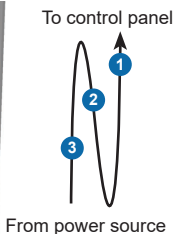

fig. 8.61
- 11- Hook the free end of the cable ("3", fig. 8.61, p. 100) to an appropriate power source. **This installation must be performed by a certified electrician.**
- 16- Raise the motorized unit and install all the required, subsequent cable guides at every tie level, making sure that segments 1 and 2 of the cable (fig. 8.61) are properly inserted in each cable guide.
- 19- Unhook the cable from the horizontal tube on the main trolley (see step 13). Loop the portion of cable coming from the power source ("3", fig. 8.61) inside the mast section.